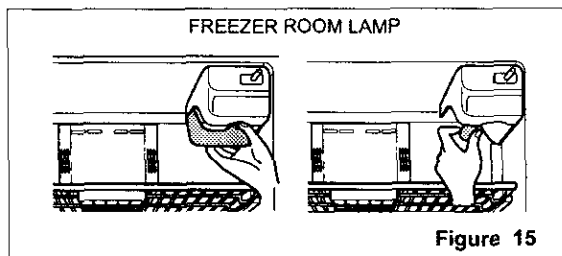

Figure 15
2. Remove the room lamp lid by taking down while pulling it forward with your hand after inserting finger into the inside hole as shown in (figure 15).